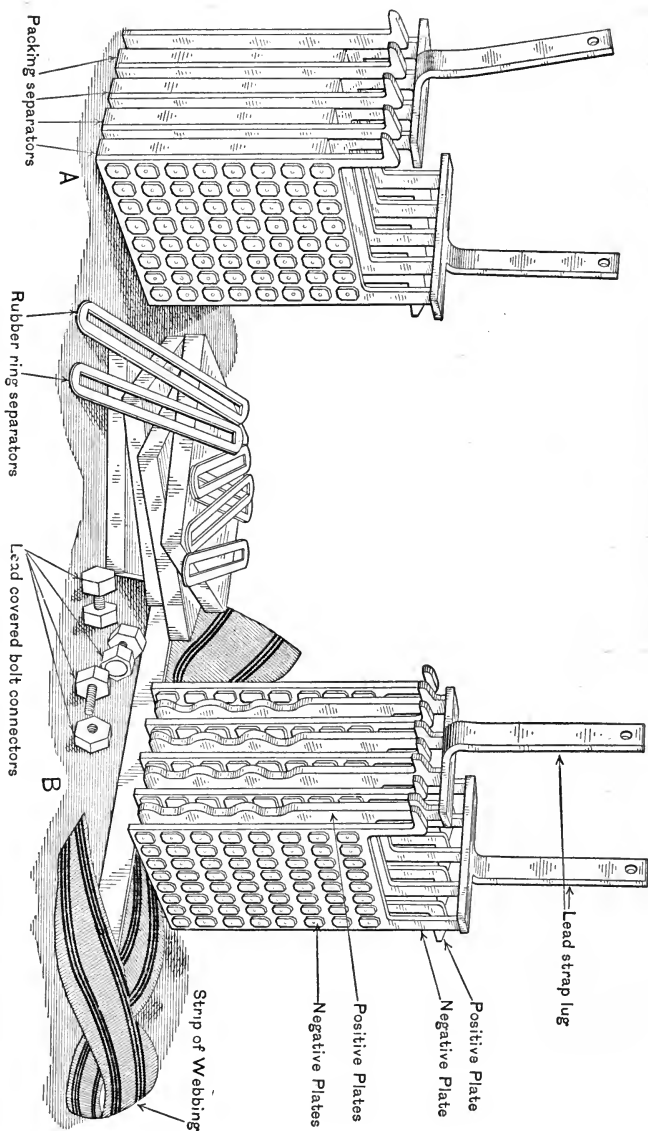

Fig. 103.
Q. Describe the casemate battery. (See Fig. 103.)